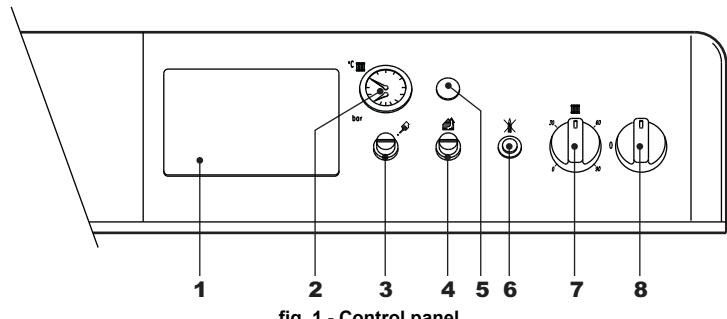

fig. 1 - Control panel
- Turn the boiler switch "8" to 1 (fig. 1).
- If the boiler is equipped with an electronic thermostatic controller fitted in position 1 fig. 1 of , the user must also take into account the manufacturer's instructions.
Turn the knob 7 of fig. 1 clockwise to increase the heating water temperature, or anti-clockwise to decrease it. The temperature can be varied from a minimum of 30°C to a maximum of 90°C. However, it is advisable not to operate the boiler below 45°C.
Using the room thermostat, set the required temperature in the rooms. By command of the room thermostat, the boiler lights and brings the system water to the temperature set by boiler adjustment thermostat 7 of fig. 1. The generator turns off when the required temperature in the rooms is reached.
The filling pressure with system cold, read on the boiler water gauge detail 2 of fig. 1, must be approx. 1.0 bar. If, during operation, the system pressure falls (due to the evaporation of gases dissolved in the water) to values below the minimum described above, the user must bring it to the initial value by operating the filling cock. At the end of the operation always close the filling cock.